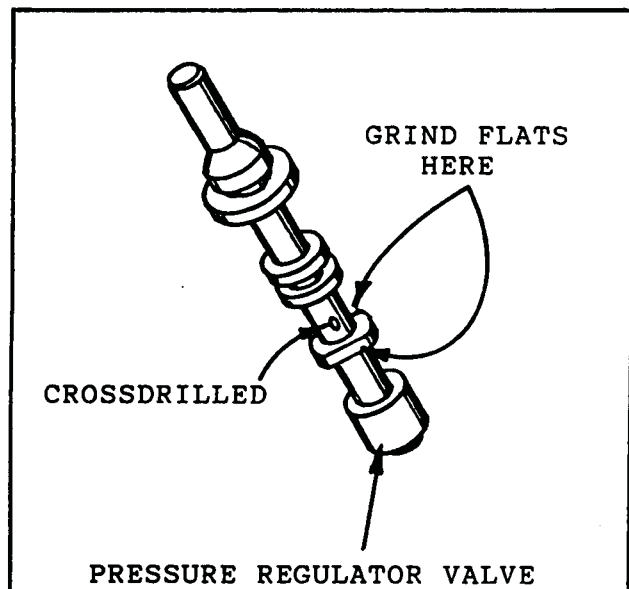

Figure 174
23. Grind two "Flats" on the second land of the pressure regulator valve, as shown in Figure 174, or purchase the updated pressure regulator valve that is available under part NO. 8684048.